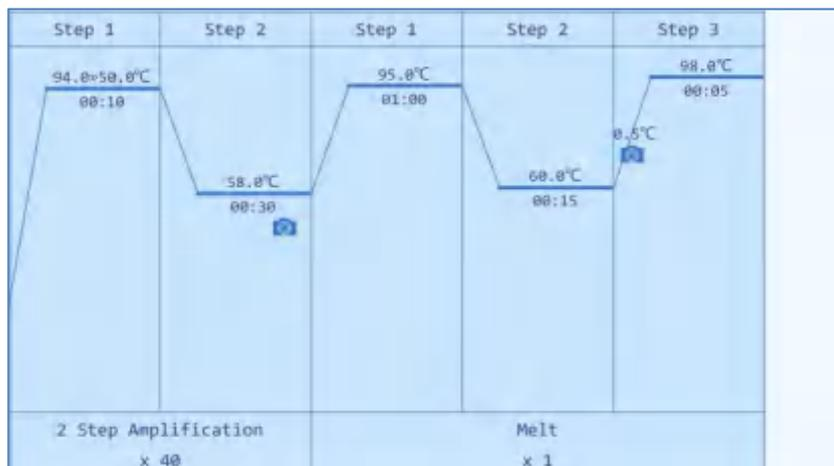

Figure E-5.4. Run Monitoring Diagram - Temperature program
- ▶ If user select the **Temperature** option in the run monitoring option bar, run monitoring diagram will display the temperature program of the current experiment, as shown in figure E-5.4.